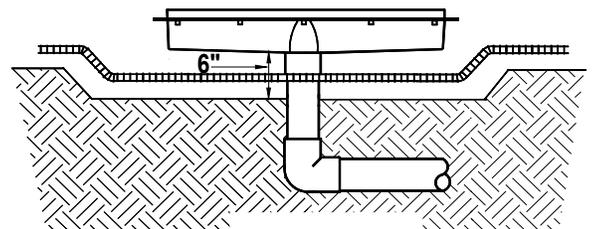

Figure 4
12. The steel re-bar must be bent so that the steel basket drops below the channel drain and is formed so that it is half way between the bottom of the Channel Drain and the bottom of the trench (see Figure 4).
- Pack the concrete tightly under the Channel Drain and finish the wall around the drain to 1/2” below the lip, then make a finger wipe under the water stop of the drain so that finish material can be applied under the lip of the water seal (see Figure 4).